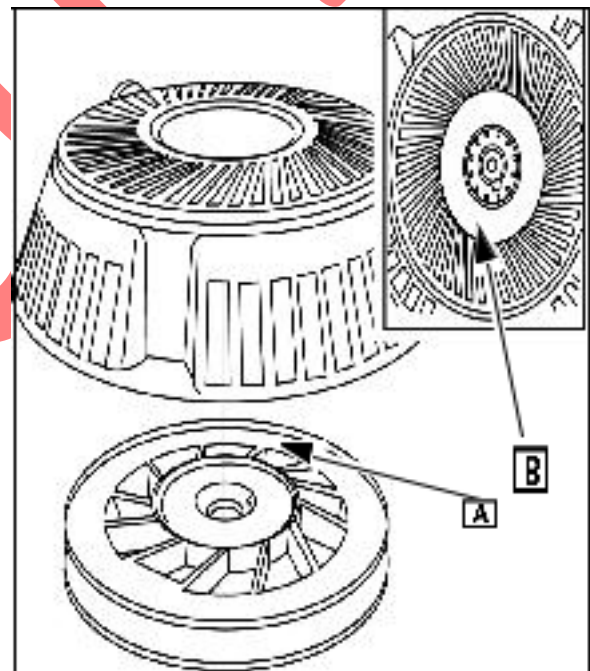

Fig. 17
Note location of inner spring tab (A) and location of inner spring anchor (B) Fig. 17) on center post of starter housing.